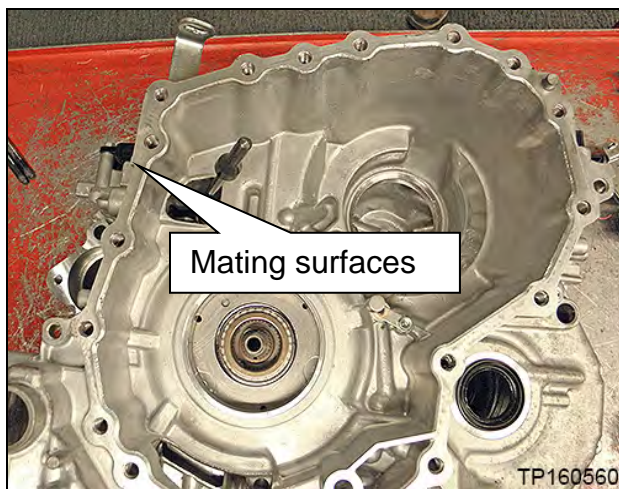

Figure 20F
- For Rogue re-install all six (6) original bolts into the old sub-assembly.
17. Thoroughly clean the mating surfaces of the CVT case (Figure 20F) that the sub-assembly was just separated from (a plastic scraper can be used).